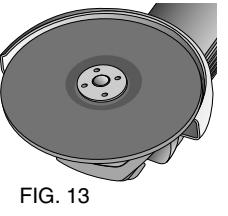

FIG. 13
3. Screw the threaded flange onto the spindle (FIG. 13).
3. Screw the threaded flange onto the spindle, piloting the wheel on the backing flange hub (FIG. 13).